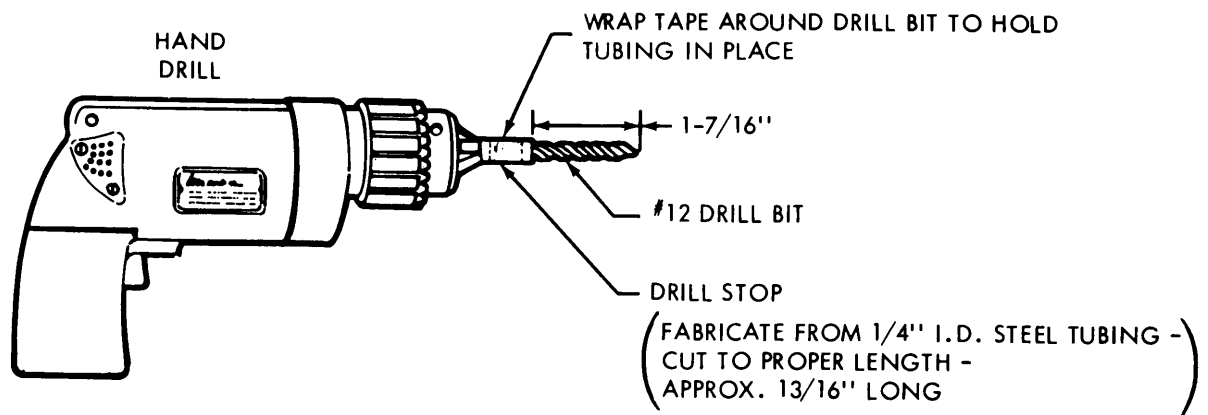

Figure 4-3. Drill stop fabrication.
(b) Fabricate drill stop (fig. 4-3)
- (d) Place fabricated drill stop on a No. 12 drill bit to limit depth to 1-7/16 inch. Wrap tape around bit to hold stop in place (Fig. 4-3).